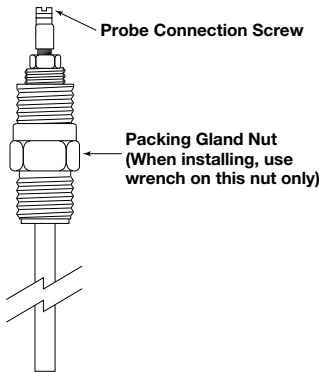
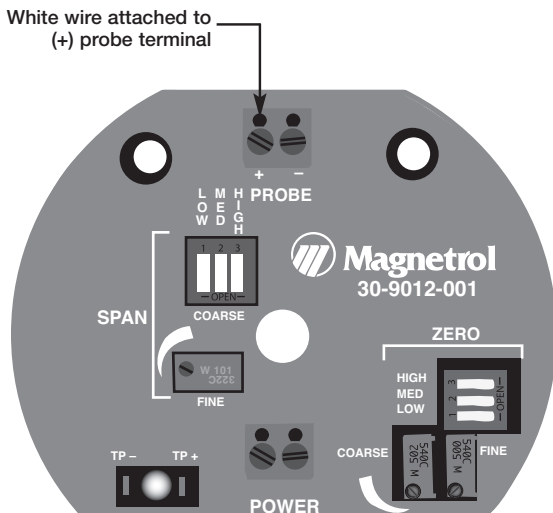
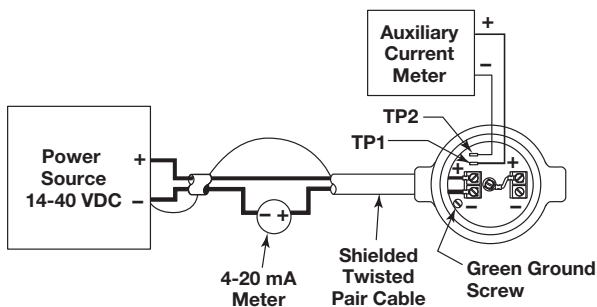

Figure 1
Figure 3
Figure 5
1. Thread the probe into the mounting connection on the vessel. Tighten securely, making sure that the wrench is applied **ONLY** to the mounting nut. Refer to Figure 1.
1. Remove the housing cover. Locate the white wire which is fastened to the (+) probe terminal. Refer to Figure 3. Connect the free end of this wire to the probe connection screw. Refer to Figure 1.
2. Install the transmitter housing using the bracket (supplied by Magnetrol). Make sure to provide adequate clearance to remove the housing cover. Refer to Figure 3.
2. Install the transmitter housing using the bracket (supplied by Magnetrol). Make sure to provide adequate clearance to remove the housing cover. Refer to Figure 3 on page 3.
3. Remove the transmitter housing cover. Connect the positive lead of the interconnection cable to the (+) probe terminal. Connect the negative lead and shield to the (-) probe terminal. Refer to Figure 3 on page 3.
3. Remove the transmitter housing cover. Connect the positive lead of the interconnection cable to the (+) probe terminal. Connect the negative lead and shield to the (–) probe terminal. Refer to Figure 3 on page 3.
2. Connect the positive supply wire to the (+) terminal and the negative supply wire to the (-) terminal. Connect the shield to the green ground screw at the base of the housing. Make the shield wire as short as possible. Refer to Figure 3 on page 3, and Figure 5.